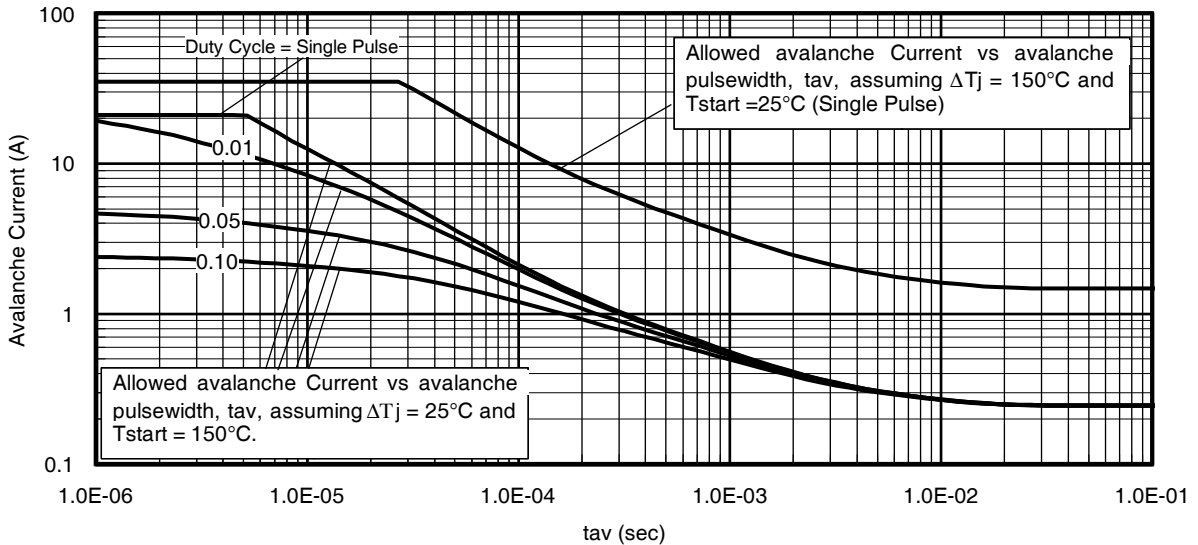

Fig 14. Typical Avalanche Current Vs. Pulsewidth
- ① Repetitive rating; pulse width limited by max. junction temperature. ④ R_{θ} is measured at T_J of approximately 90°C .
② Starting $T_J = 25^\circ\text{C}$, $L = 0.51\text{mH}$, $R_G = 25\Omega$, $I_{AS} = 21A$. ⑤ Limited by T_{jmax} . See Figs. 14, 15, 17a, 17b for repetitive avalanche information
③ Pulse width $\leq 400\mu s$; duty cycle $\leq 2\%$.
Notes on Repetitive Avalanche Curves, Figures 14, 15:
7. ΔT = Allowable rise in junction temperature, not to exceed T_{jmax} (assumed as 25°C in Figure 14, 15).